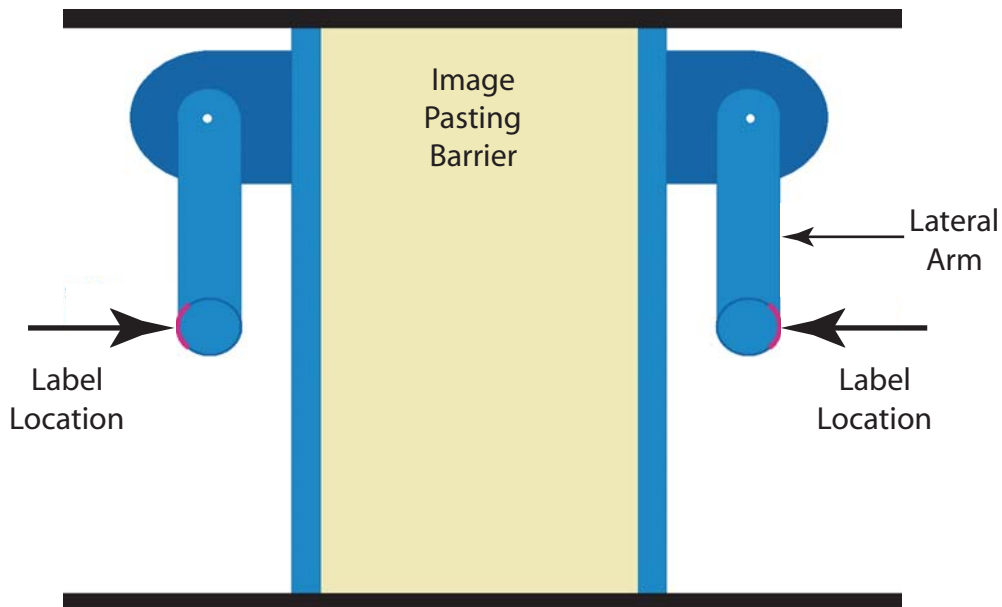

Figure 13-5 Lateral Arm Labels
- * These should go on the sides of the lateral arms when the arms are rotated all the way down as shown in Figure 13-5.